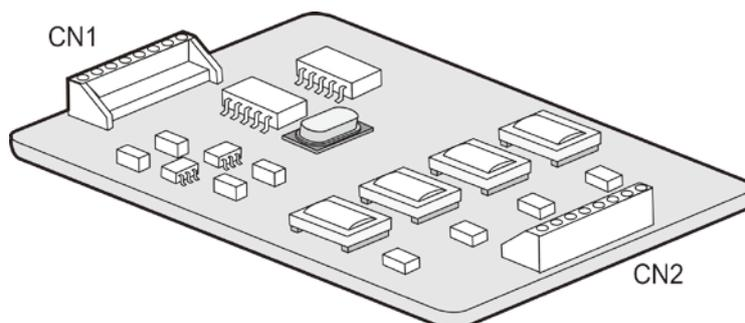

Figure 4.8.5-1 MG-CMU4
The MG-CMU4, as shown in Figure 4.8.5-1, provides the Call metering function for analog CO lines. The CMU circuitry detects call metering and signaling information sent from the PSTN at 50 Hz, 12 KHz, or 16 KHz. The MG-CMU4 has four (4) circuits each connects to a separate CO line. MG-CMU4 can be installed on the CN8 and CN9 connectors of the KSU MBUA, KSU MBUAD or the EKSU EMBU to support the built-in CO lines. The CMU4 is installed on connectors CN790 and CN791 of optional Interface boards with analog CO lines including the CH204, CH408 and CS416.